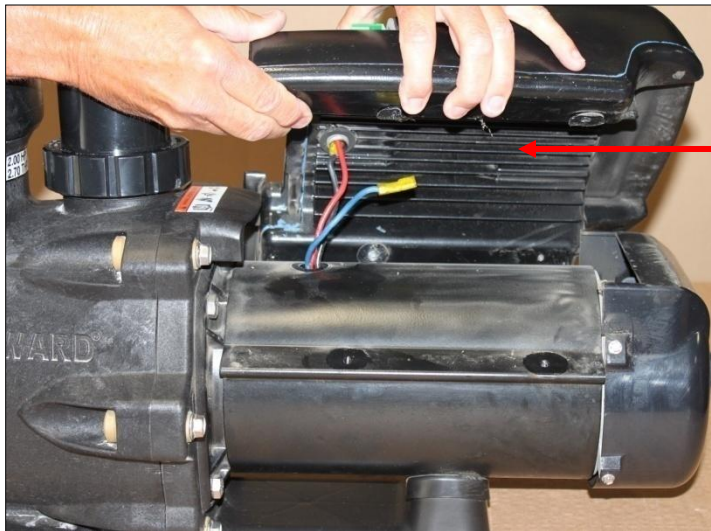
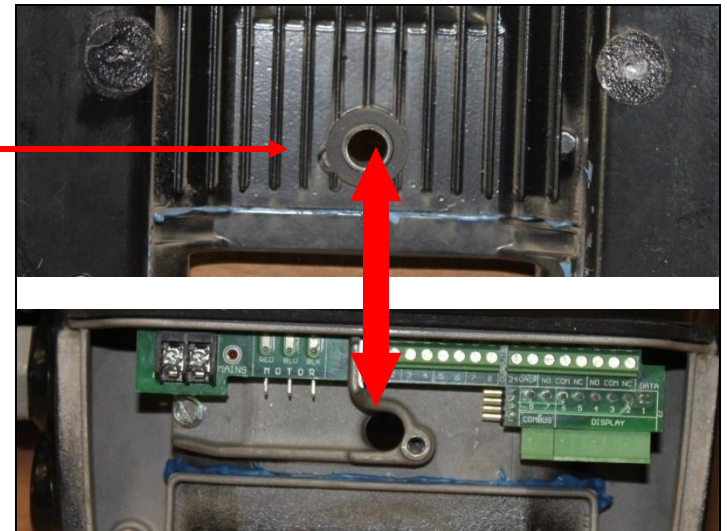

Figure 73
Figure 74
8. Lift the drive assembly partially off the motor and carefully pull each of the three wires individually through the hole provided (fig 73).
9. Do not attempt to pull all three wires through the hole as you may cause damage. Note the hole size (fig 74). The bottom of the drive is called the heatsink (fig 73 & 74). During reassembly make sure all three wires are pulled completely through the hole provided to prevent pinching between the motor and the drive.
Note: The fan shown (fig 73) comes as part of the motor assembly. It should also be noted that the fan shroud can be installed upside down. Square top section of shroud should always be on the top section of motor.